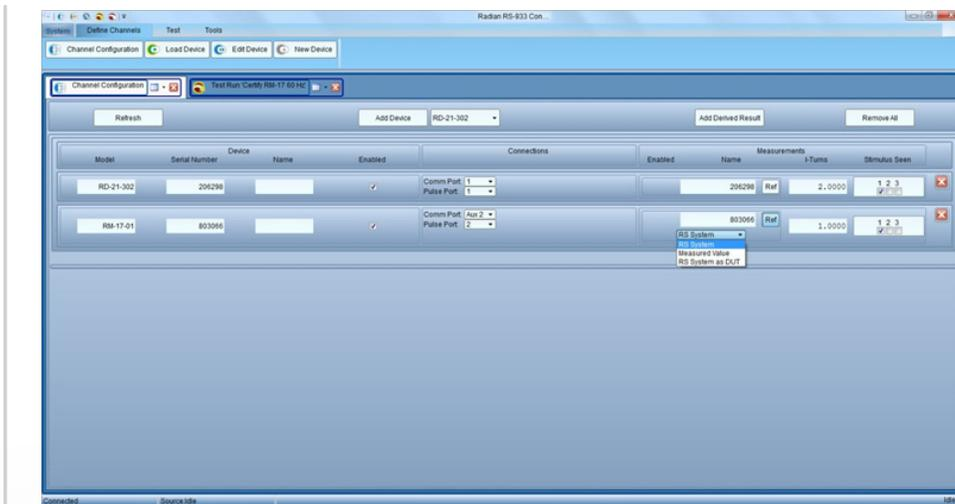

Figure 3
14. In the Measurements section, select the Ref button next the Name of the RM-17. Below the name a dropdown box appears. Select Measured Value. See figure 3 for an example.